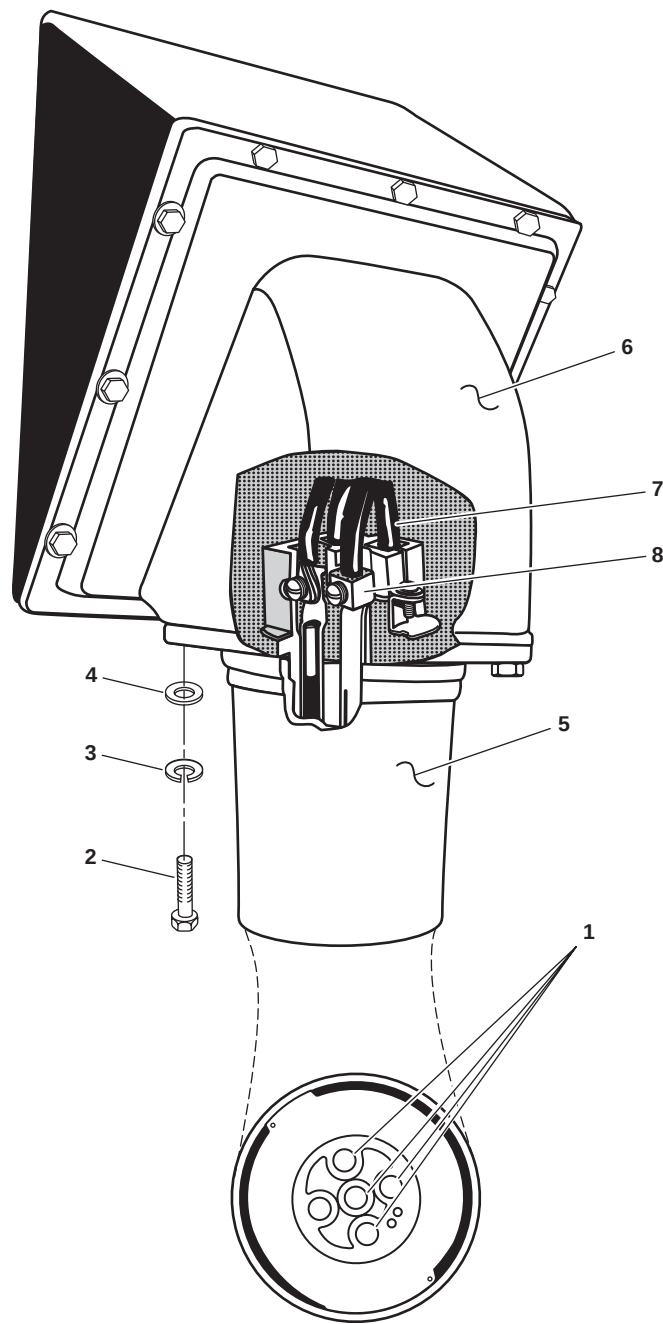

Figure 1. Shore Power Receptacle Repair
1. Use a multimeter to check for voltage at the applicable terminals (figure 1, item 1). If voltage is present, ensure that the appropriate circuit breakers have been set to OFF, locked out, and tagged out (FM 55-502). If no voltage is present, continue with the procedure.
2. Remove the four screws (figure 1, item 2), four lockwashers (figure 1, item 3), and four flat washers (figure 1, item 4) that secure the shore power receptacle (figure 1, item 5) to the junction box (figure 1, item 6) mounted on the bulkhead of the vessel. Discard the lockwashers.
3. Label and disconnect the wiring (figure 1, item 7) from the terminal connection (figure 1, item 8).
4. Remove the shore power receptacle (figure 1, item 5) from the junction box (figure 1, item 6).
1. Install the shore power receptacle (figure 1, item 5) on the junction box (figure 1, item 6).
2. Install the electrical wiring (figure 1, item 7) to the appropriate terminal connection (figure 1, item 8) using the labels from step 3 of Removal as a guide. Remove the labels.
3. Install the four screws (figure 1, item 2), four new lockwashers (figure 1, item 3), and four flat washers (figure 1, item 4) that secure the receptacle to the junction box (figure 1, item 6).